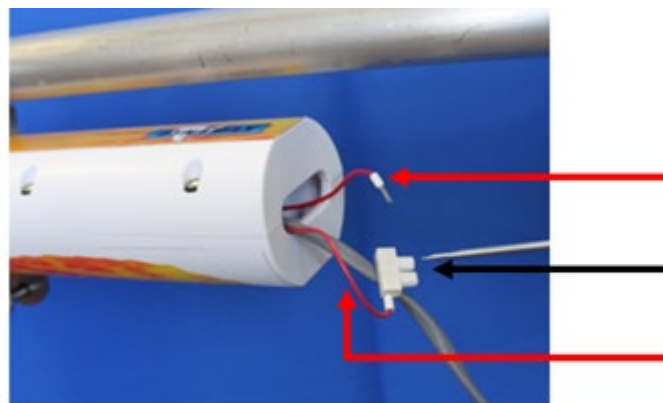

Figure 8: IRT Wiring and On/Off Switch
- Now the customer is ready to power on the IRT. First, identify the two wires pertruding from the bottom of the unit (illustrated by the red arrow in figure 8) and the small white terminals connected to the end of one wire (illustrated by the black arrow in figure 8). This white connector will be the on and off switch, which is a housing where one red wire will be screwed into.